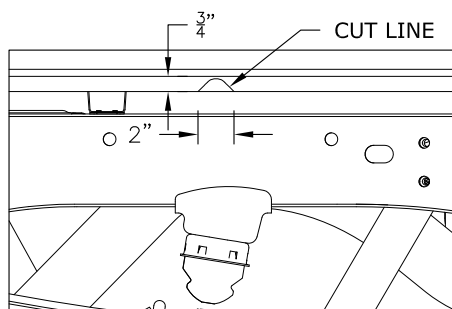

FIGURE A4: V-Shaped notch
9. **Modify bed flange.** Cut a notch in the bed flange just above the frame in the passenger side rear wheel well as shown in figure A4. This notch is required for installing the hitch cross members.